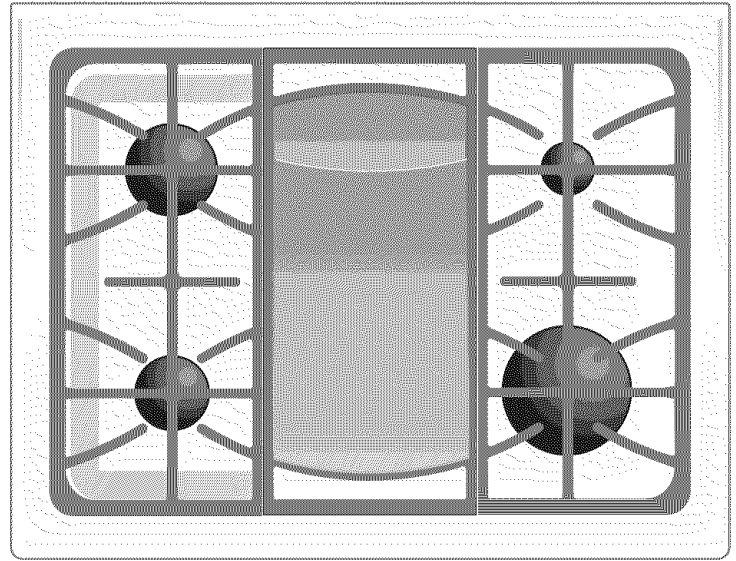

Fig. 1
- Place the griddle centered over the Bridge Burner (some models). For location refer to Fig. 1.